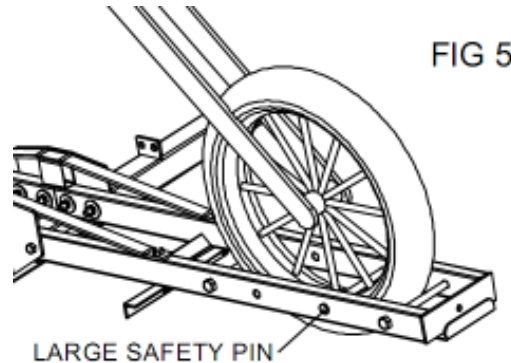

FIG 5
STEP 3. **PLACING THE LARGE BOLTS.** The carrier is designed to load the bike from the left or right side using the ramp. There are 3 sets of center boles and 1 set of upper holes on each cradle. The large safety pins and clevis pins are used in the upper holes. See FIG 5. The 4 large bolts are used in the center hole to support the bike tires. Note: Depending on
Secure bike with 2 ratchet style straps (not included). Put one of the safety pins into upper hole passing through the spokes of the front wheel. Secure with a clevis pin. See FIG 5